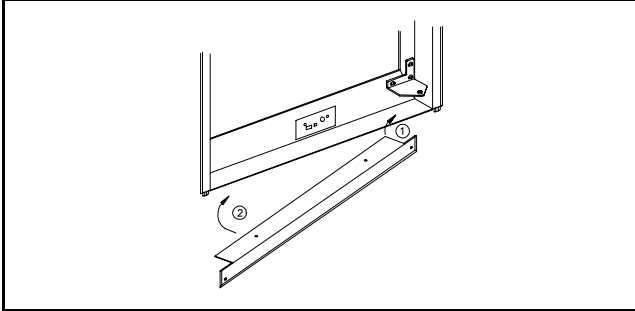

Figure 4
1. Install the lower flange by maneuvering it under and behind the bottom hinge plate, as shown in Figure 4 (the hinge will be located on either the right or left side, depending on door swing preference).